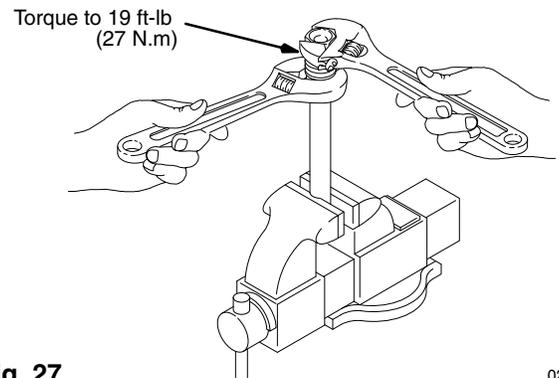

Fig. 27 02570A
5. Place the flats of the rod in a vise. Carefully tighten the piston valve nut (211) against the piston rod to 19 ft-lb (27 N.m). Use two wrenches to maintain the alignment. See Fig. 27.